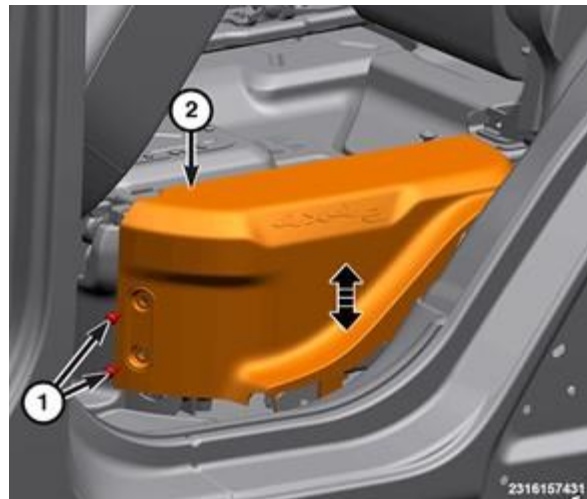

**Figure 28 – HV Battery Side Trim**
25. Remove the fasteners (1) from the side high voltage battery trim panels (2) (Figure 28).
42. Install the high voltage trim panel and press downward to seat the retainers (Figure 28).